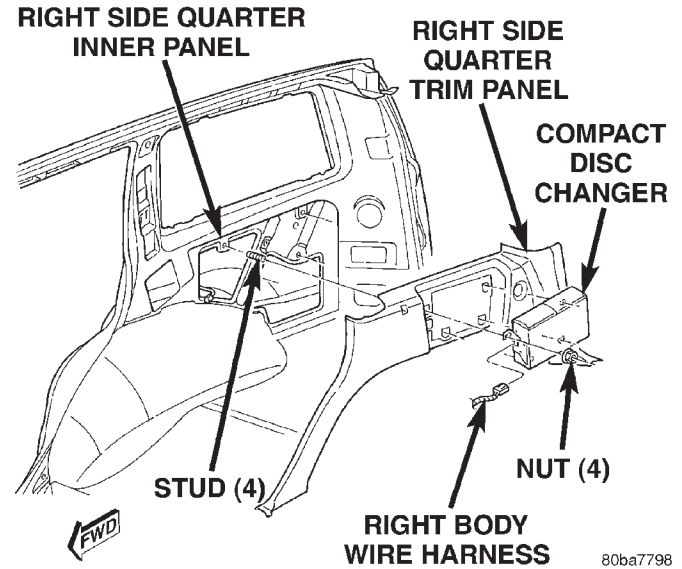

Fig. 6 Compact Disc Changer Remove/Install
- (3) Remove the two screws that secure the top of compact disc changer storage bin to the right side quarter trim panel.
- (4) Grasp the bottom of the compact disc changer storage bin firmly with both hands and lift it upwards to disengage the four hook formations that secure the bin from the right side quarter trim panel.
- (5) Remove the compact disc changer storage bin from the right side quarter trim panel.
- (6) Disconnect the right body wire harness connector from the connector receptacle on the forward end of the compact disc changer (Fig. 6).
- (7) Remove the four nuts that secure the compact disc changer to the four studs on the right side quarter inner panel.
- (8) Remove the compact disc changer from the right side quarter inner panel.